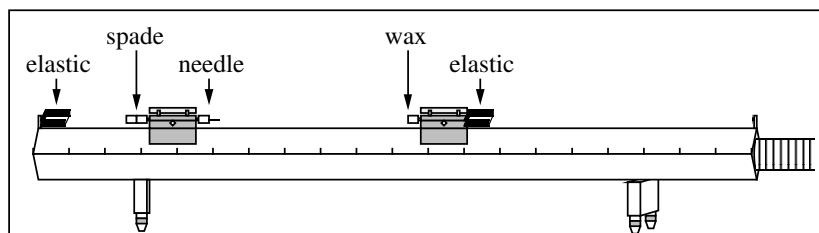

Figure 3: Sketch of the glider configuration for inelastic collisions.
1. Attach needle and wax insert to the gliders as in Fig. 3, so that they now stick together when they collide (inelastic collision). Make sure the needle lines up exactly with the wax or there will be significant sideways motion during the collision. Measure masses of gliders (with uncertainties). Repeat Exp. II. Start gliders from the same side (so that one overtakes the other), in order that $p_{init} \neq 0$.